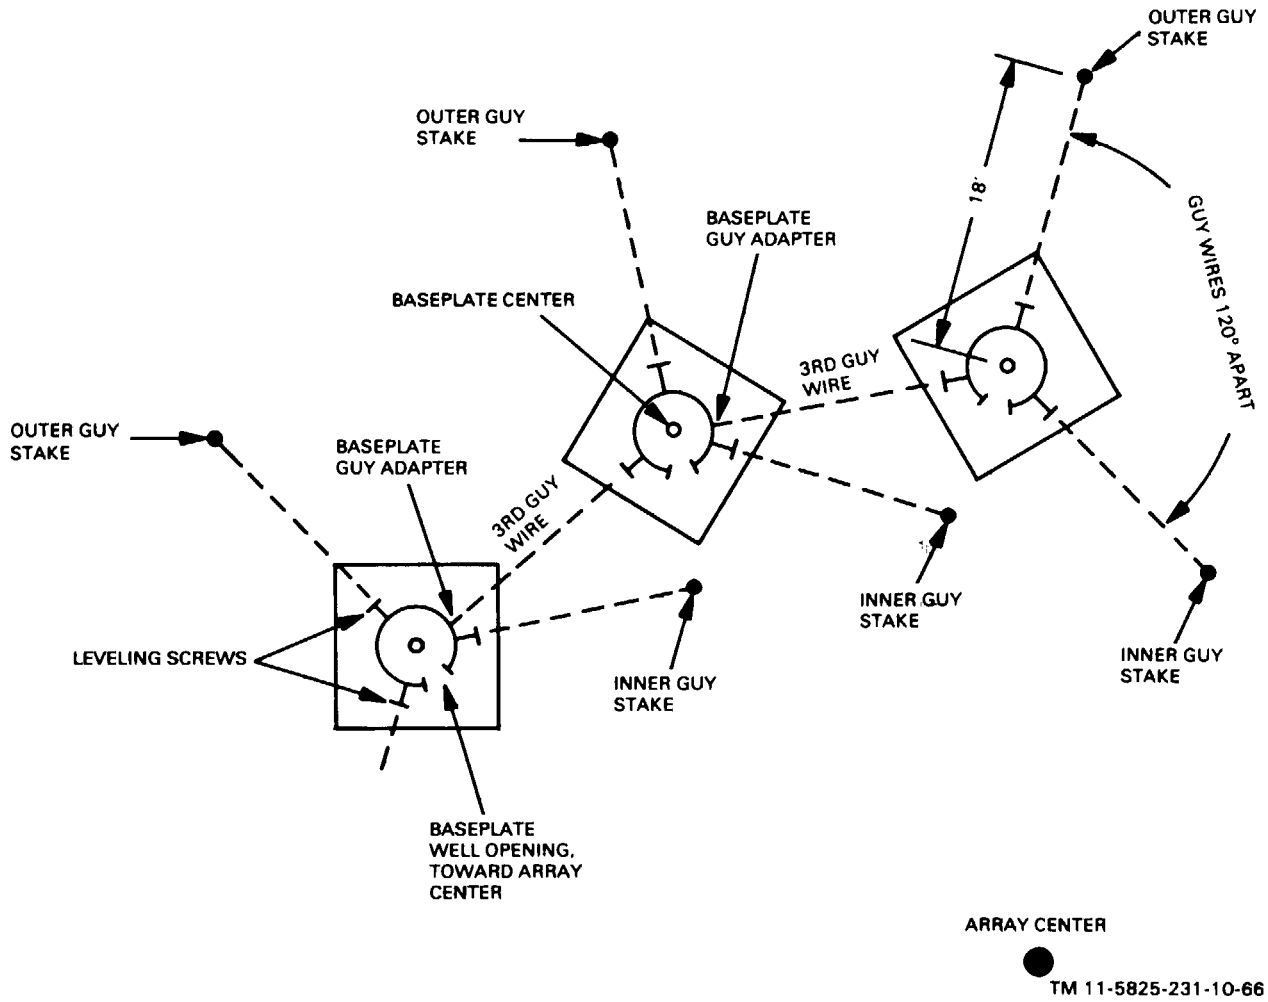

Figure 2-8. Orienting baseplates and locating guy stakes for 150-foot array.
(1) The vehicle that contains the shelter should be driven into the area of the locating stakes and into the approximate position as indicated in figure 2-8. Consider the following factors when placing the shelter:
(2) Loosen the locknuts on the leveling screws until they are flush with the inside wall of the socket in the casting.
(3) Lift the antenna base and center it over the antenna locating pin; use the sighting hole for this operation. For the 150-foot diameter array, position the baseplate so that the well opening of the antenna base faces inward and the right leveling screw (as you stand outside the array and face inward) is pointing toward the antenna locating pin or the next antenna position on the right (fig. 2-8). For the 300-foot diameter array, position the baseplate so that the well opening points toward the center of the array (fig. 2-9).
a. Each antenna is secured with three guy wires spaced 120° apart. In the 150-foot diameter array, one guy wire is attached to an inner guy stake, one is attached to an outer guy stake, and one is attached to the guy adapter on the next counterclockwise antenna base (fig. 2-8). In the 300-foot diameter array, all guy wires are attached to guy stakes (fig. 2-9).
(1) Measure 18 feet from the center of the baseplate across the leveling screws, using the antenna positioning tripod as a guide. In the 150-foot diameter array, only two stakes are required.
(2) At each measured point, drive a guy stake in at a slight angle away from the baseplate. Leave approximately 3 inches of stake above the ground. Be sure that the eyesnaps on the stake are facing the baseplate.
(3) Insure that the guy wires are adjusted to 30 feet in length.